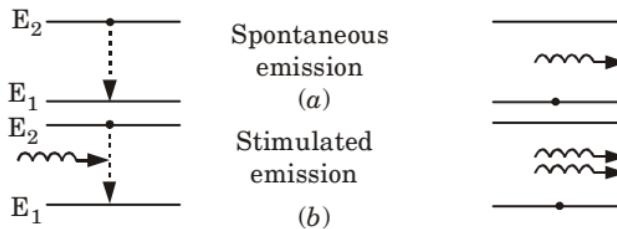

Fig. 3.10.2.
3. From Fig. 3.10.2, it is observed that in spontaneous emission atom from higher energy state returns to lower energy state in an entirely random manner whereas in stimulated emission, a photon having an energy equal to ($E_2 - E_1$) interacts with the atom in the higher energy state causing it to return to the lower state with the creation of a second photon.